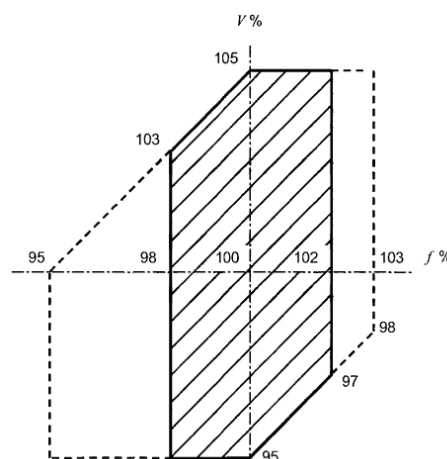

Figure 2.1: Voltage and frequency variation limits (IEC60034-3)
- As defined by the shadowed area in Figure 2.1, the synchronous condenser must be able to continuously supply its rated power, operating at its rated power factor with a variation of $\pm 5\%$ in the voltage and $\pm 2\%$ in the frequency. As the operating point moves away from the rated values of frequency and voltage, the temperature in the synchronous condenser windings may rise progressively;
- As defined by the external limit in Figure 2.1, the synchronous condenser must also be able to continuously supply its rated power, operating at its rated power factor with a variation of $\pm 5\%$ in the voltage and +3% and -5% in the frequency. However, in this case the temperature rise will be even higher than in the previous case. Thus, in order to minimize the reduction of the synchronous condenser lifespan because of the temperature effects, the extent and frequency of the operation out of the shadowed area must be limited. The power of the synchronous condenser must be reduced or another corrective action must be taken.